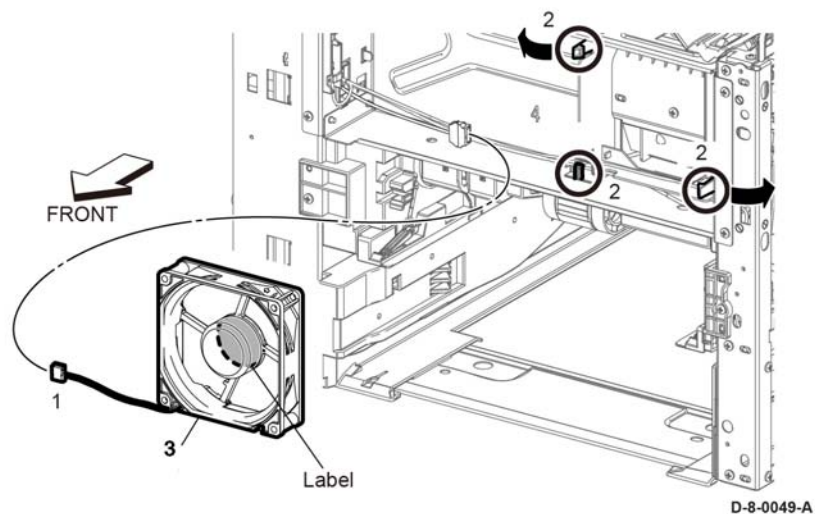

Figure 1 Sub fan removal
9. Remove the sub fan, Figure 1:
- a. Disconnect P/J249 (1), then release the harness from the harness guide.
- b. Release three hooks (2), then remove the sub fan (3).